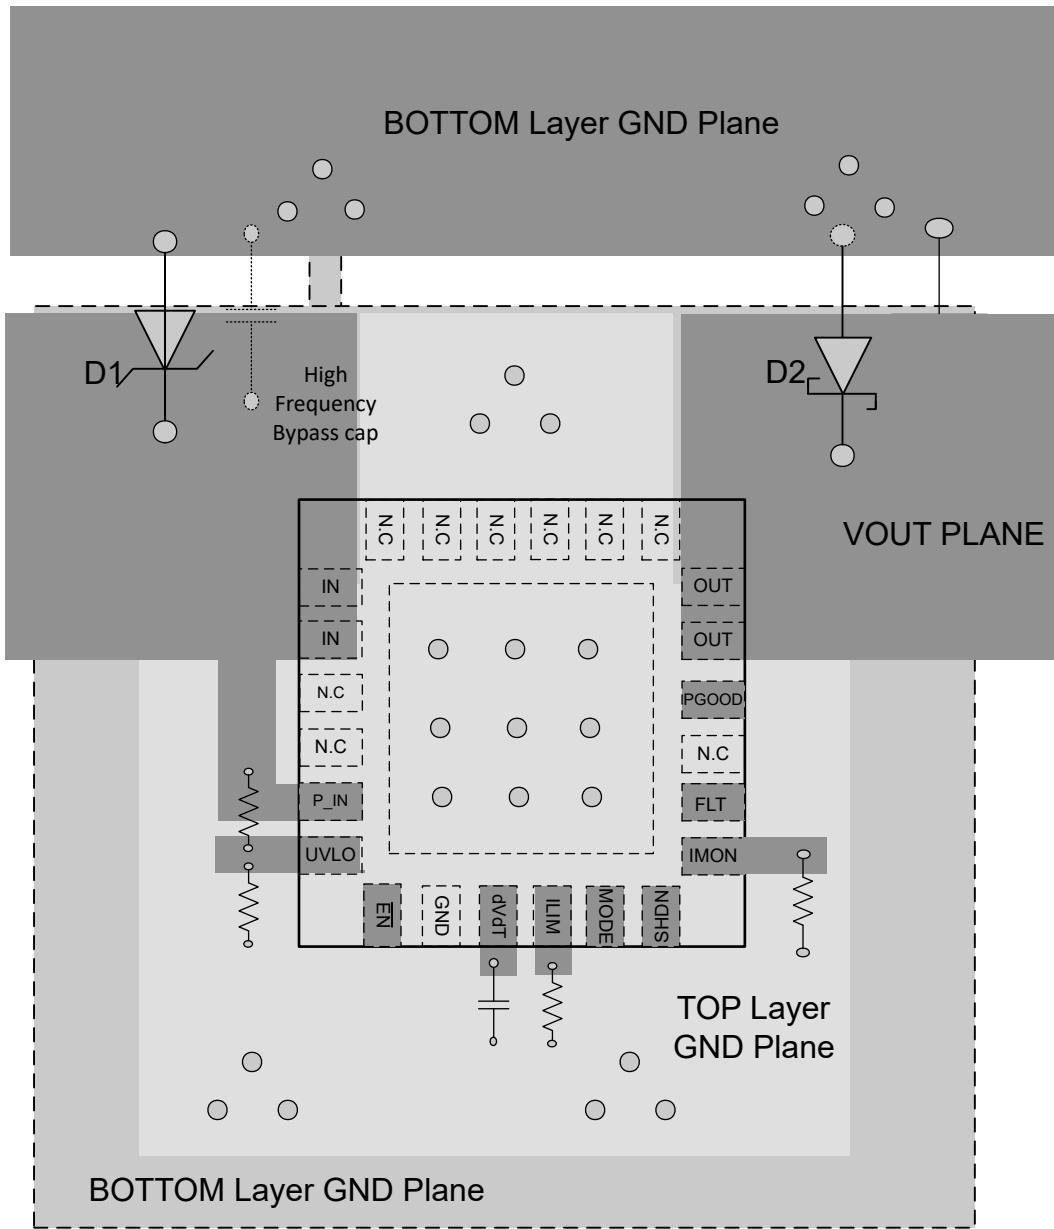
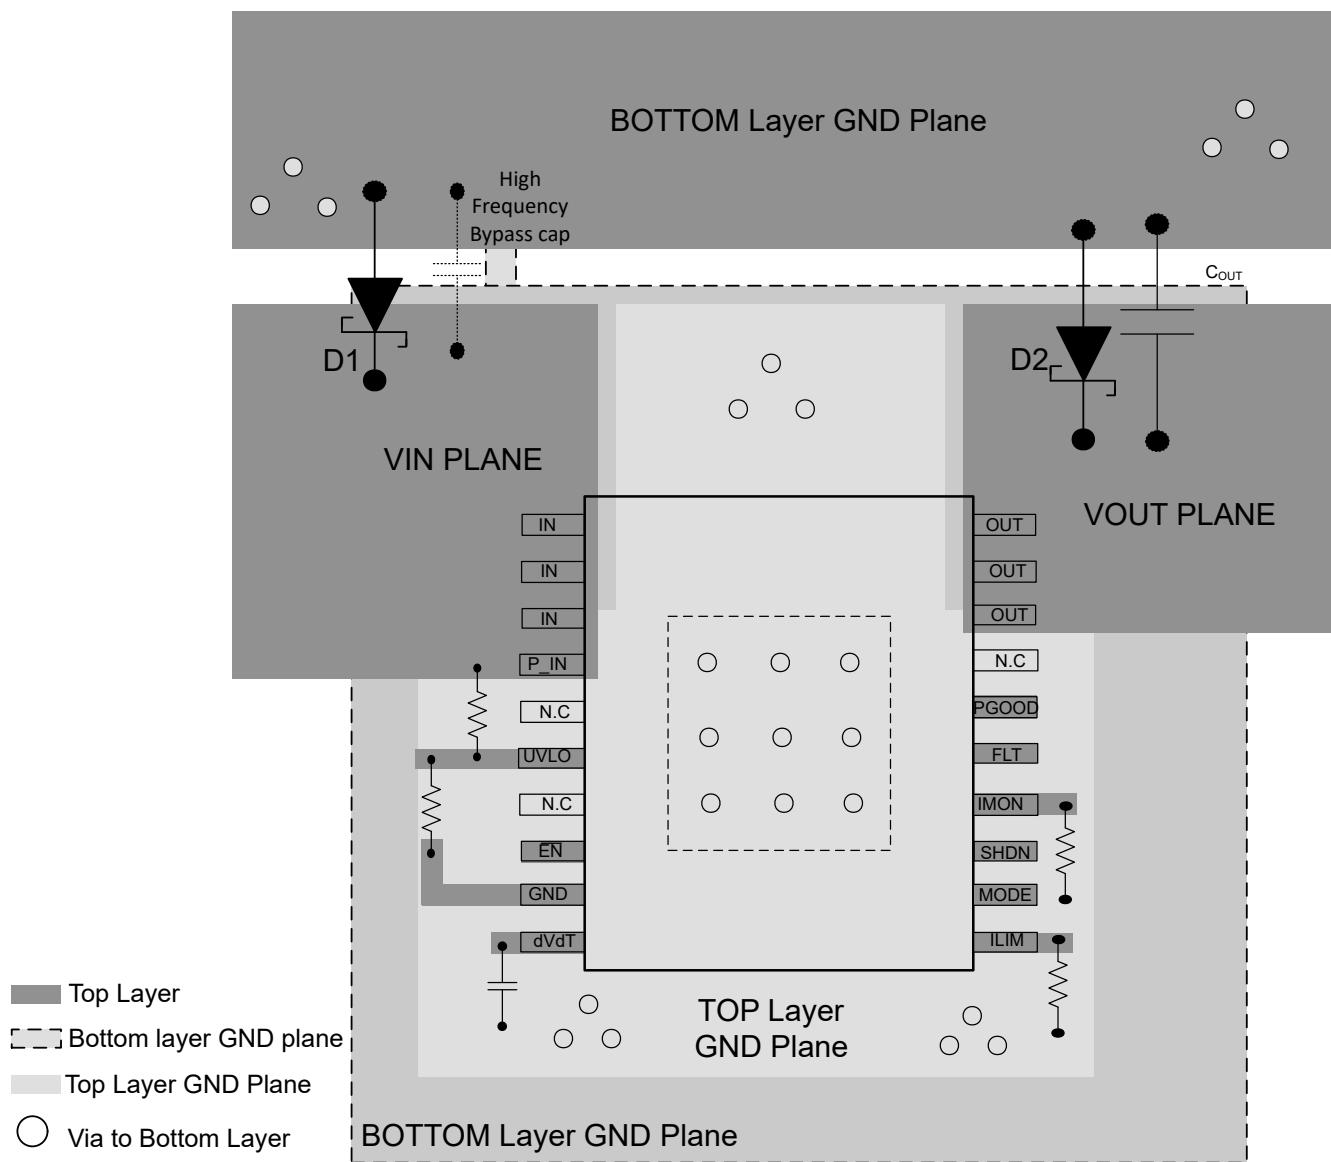

图 11-1. PCB Layout Example With QFN Package With a 2-Layer PCB
図 11-2. Typical PCB Layout Example With HTSSOP Package With a 2-Layer PCB
- High current carrying power path connections must be as short as possible and must be sized to carry at least twice the full-load current. See FIG 11-1 and FIG 11-2 for a typical PCB layout example.